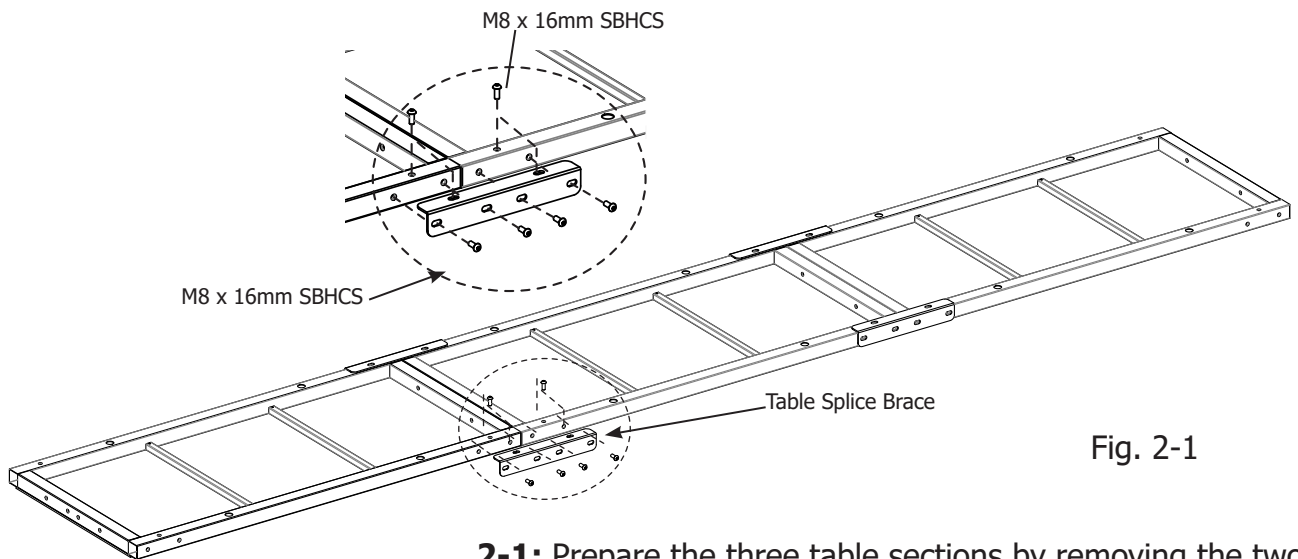

Fig. 2-1
2-2: 12 foot: Start with two 4-foot table sections upside-down on the floor end to end. **10-foot:** start with one 2-foot and one 4-foot table sections upside-down on the floor, end to end (as shown in Fig. 2-1). Join the sections together by placing a table splice brace onto the sections, lining up the holes in the brace with those in the sections. Make sure the flange portion of the brace is on top (as shown).
2-4: Finger-tighten two (2) SBHCS through the top of each table splice brace (as shown). (Fig. 2-1)